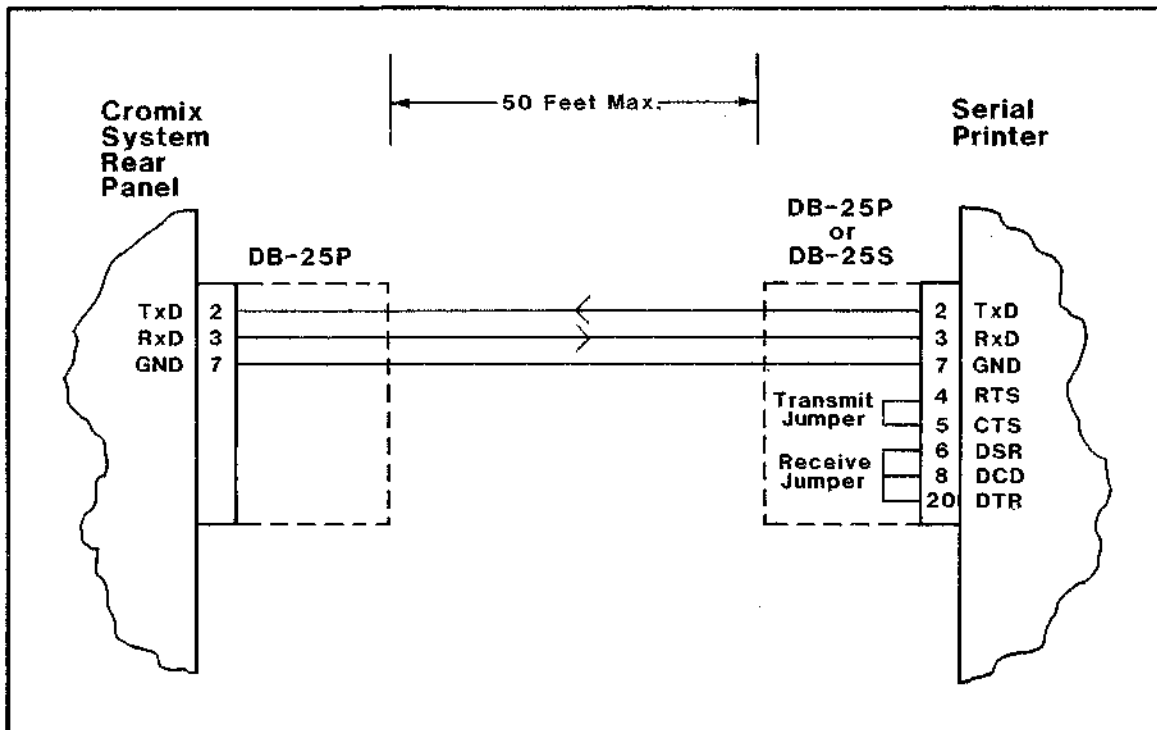

Figure 4-1: SERIAL PRINTER CABLE JUMPERS
9. If your printer monitors the CTS (Clear To Send) circuit, install the transmit jumper between CTS and RTS (figure 4-1). Keeping CTS true allows the printer to send DCI or ACK characters back to the Cromix driver. If the printer does not drive RTS high, strap CTS high by some other means. If the printer does not monitor circuit CTS, the transmit jumper is not needed.
10. If your printer monitors circuits DCD (Data Carrier Detect) and/or DSR (Data Set Ready), install the receive jumper between DCD, DSR, and DTR (figure 4-1). Keeping DCD and DSR true allows the printer to receive characters from the Cromix driver. If the printer does not drive DTR high, strap DCD and DSR high by some other means. If the printer does not monitor either DCD or DSR, the receive jumper is not needed.